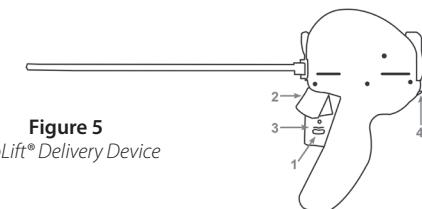

Figure 5
3.1 Unlock the Needle Safety Lock (**Step 1, Figure 5**).
3.2 Lightly depress the Trigger to deploy the needle (**Step 2, Figure 5**), then release Trigger.
3.3 After a brief pause, depress the Retraction Lever (**Step 3, Figure 5**) fully to retract needle and deploy Capsular Tab. Squeeze the Retraction Lever again to ensure completion of retract stroke.
3.7 Press the Urethral Release button toward the telescope (**Step 4, Figure 5**) to deploy Urethral End-Piece and cut the excess suture. After the Urethral Release button is pressed the complete UroLift® Implant has been deployed. No further Implants can be delivered using the same Delivery Device.